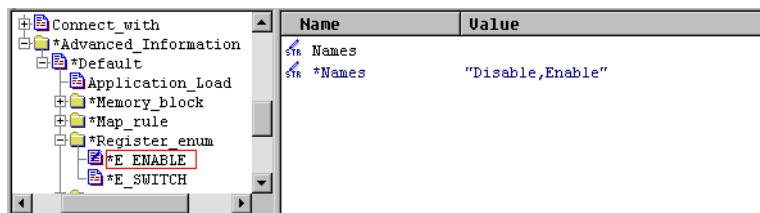

Figure 3-27 Creating enumerations
7. Set the value of the Names entry, in the right pane, to Disable, Enable (Figure 3-27).